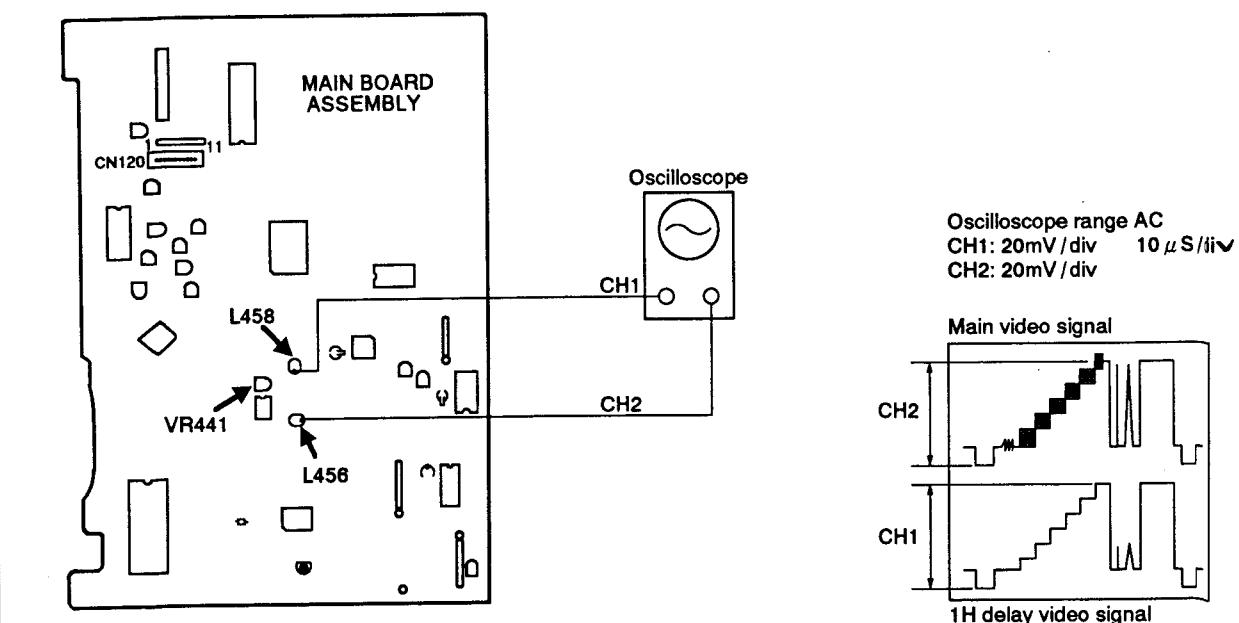

Fig. 18
- Adjust VR441 so that the 1H delay video level (CH 1) becomes the same as the main line video level (CH 2). (See Fig. 18)